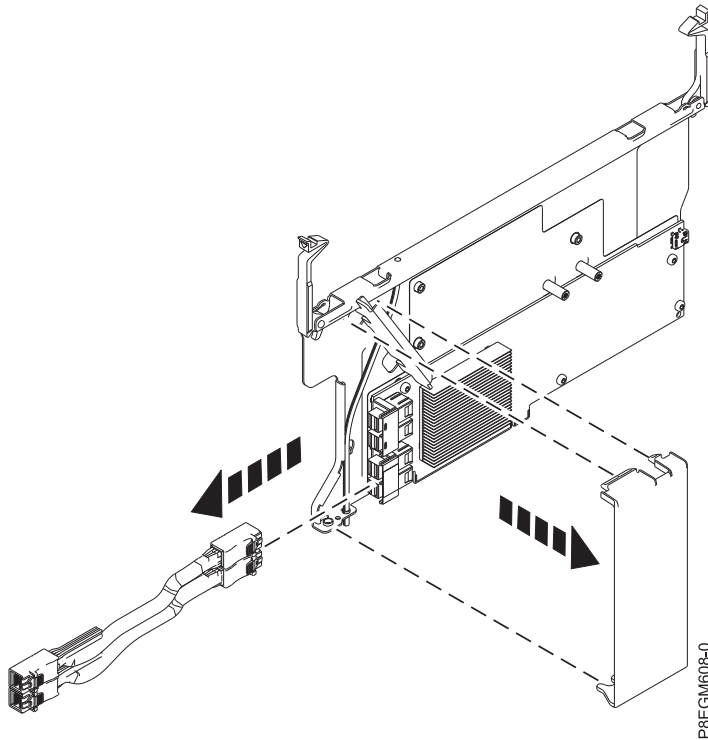

Figure 14. Removing the air flow cover
7. If you are removing the SAS RAID internal adapter from slot P1-C15, remove the air flow cover from the adapter. First press down on the top of the cover, then lift the bottom of the cover out of the hole in the SAS RAID internal adapter assembly. Set the cover aside for reuse on the replacement adapter. See Figure 14 on page 17.